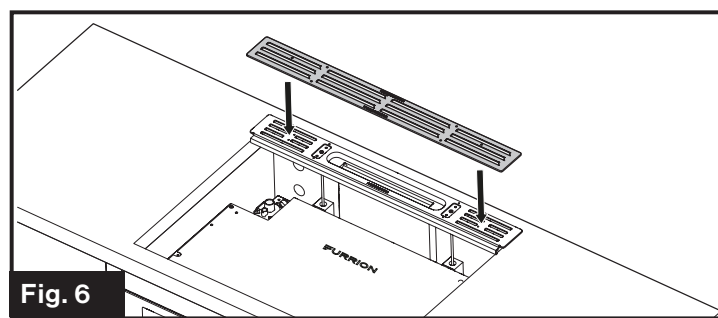
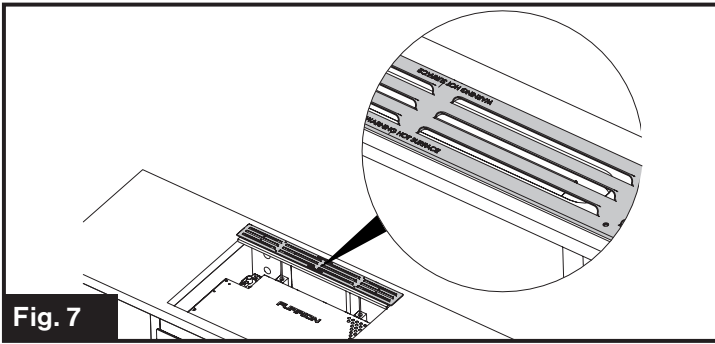

Fig. 6
Fig. 7
3. Place the vent cover over the vent assembly. Make sure the vent cover louvers are facing forward. (Fig. 6 & Fig. 7)